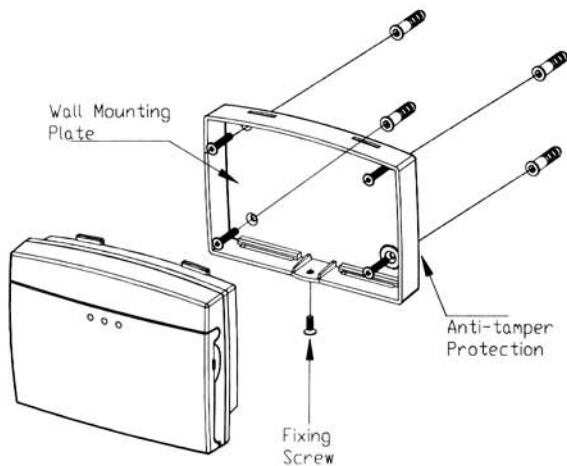

Fig. 1
1. Undo and remove the fixing screw from the bottom edge of the Keypad and remove the wall mounting plate. (Fig. 1)